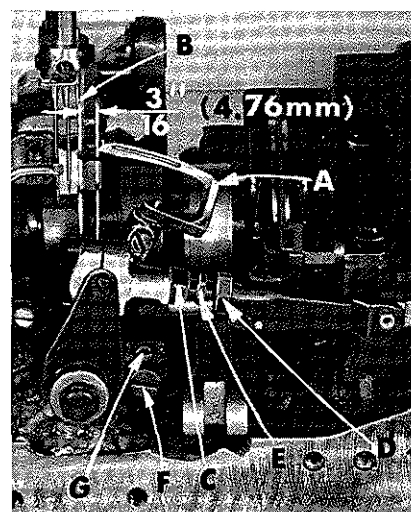

Fig. 8
Insert a new needle in the right needle seat, type and size as specified. If the looper gauge is  $\frac{3}{16}$  inch (4.76 mm), for example, set the looper (A, Fig. 8) so the distance from the center of the right needle (B) to the point of the looper is  $\frac{3}{16}$  inch (4.76 mm) when the looper is at its farthest position to the right. Looper gauge No. 21225- $\frac{3}{16}$  can be used advantageously in making this adjustment. Refer to chart for looper gauge setting and looper gauge number applicable to machine Style. If adjustment is required, loosen nut (C) (it has a lefthand thread) and nut (D) on connecting rod (E), turn the connecting rod forward or backward to obtain specified dimension. Retighten both nuts, first nut (D) and then nut (C). Make sure the left ball joint is in vertical position and does not bind after adjustment.
The looper is set correctly in line-of-feed, if, as it moves to the left, behind the needle, its point brushes, but does not pick at the rear of the needle. If adjustment is necessary, loosen lock screw (F, Fig. 8) and turn stop screw (G) as required. Turning stop screw clockwise sets the looper to the rear and turning it counterclockwise acts the reverse. Holding looper to the front while making this adjustment may prove helpful. Tighten lock screw when setting is obtained and recheck the adjustment.